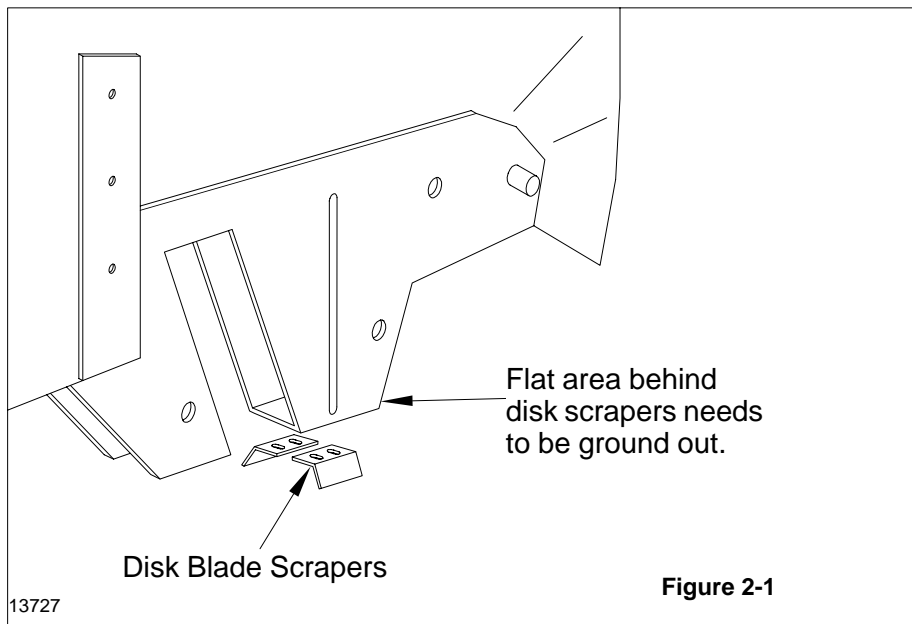

Figure 2-1
2. The flat area behind the inside disk scrapers between the upright frame support must be ground out up to the scrapers to allow room for the seed-lok. (Refer to Figure 2-1) This area contains a bolt hole for the infurrow insecticide tube.
2. The flat area behind the inside disk scrapers between the upright frame support must be ground out up to the scrapers to allow room for the seed-lok (Figure 2-1). This area contains a bolt hole for the in-furrow insecticide tube.